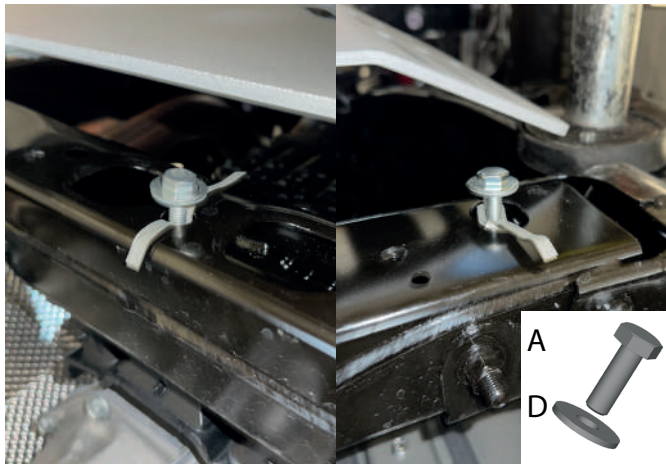

Fig. 4
3. Install M8x70 insert nuts (item C) as shown in Fig.3 & Fig.4.
4. Install M8x25 bolts (item A) with M8 washers (item D) into previously installed insert nuts in step 3 as shown in Fig.4.